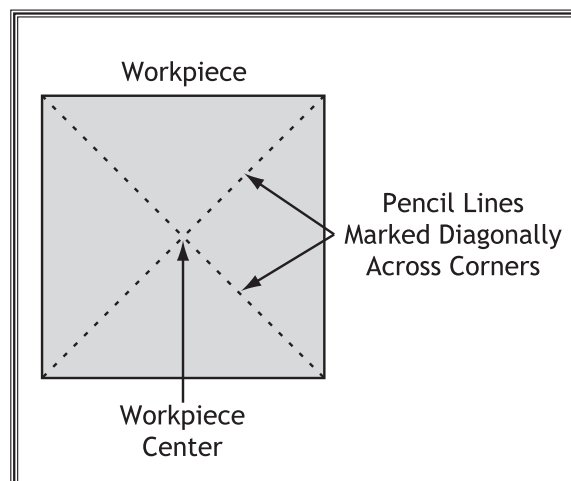

Figure 19. Workpiece marked diagonally from corner to corner to determine the center.
1. Mark both ends of your workpiece by drawing diagonal lines from corner to corner. The intersection point of these lines will show you the center of your workpiece. See **Figure 19** for details.